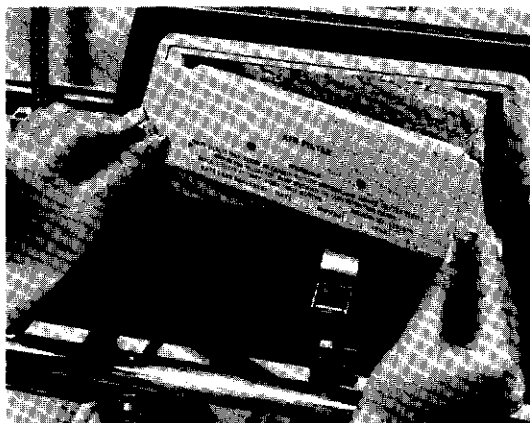

FIGURE 2.10 AIR FILTER AND COVER
5. CHECK THE CONDITION OF THE AIR FILTER by first loosening the two thumbscrews on the air filter cover (Figure 2.10) and then remove the cover. Remove the filter, if the filter is visibly dirty it should be replaced.